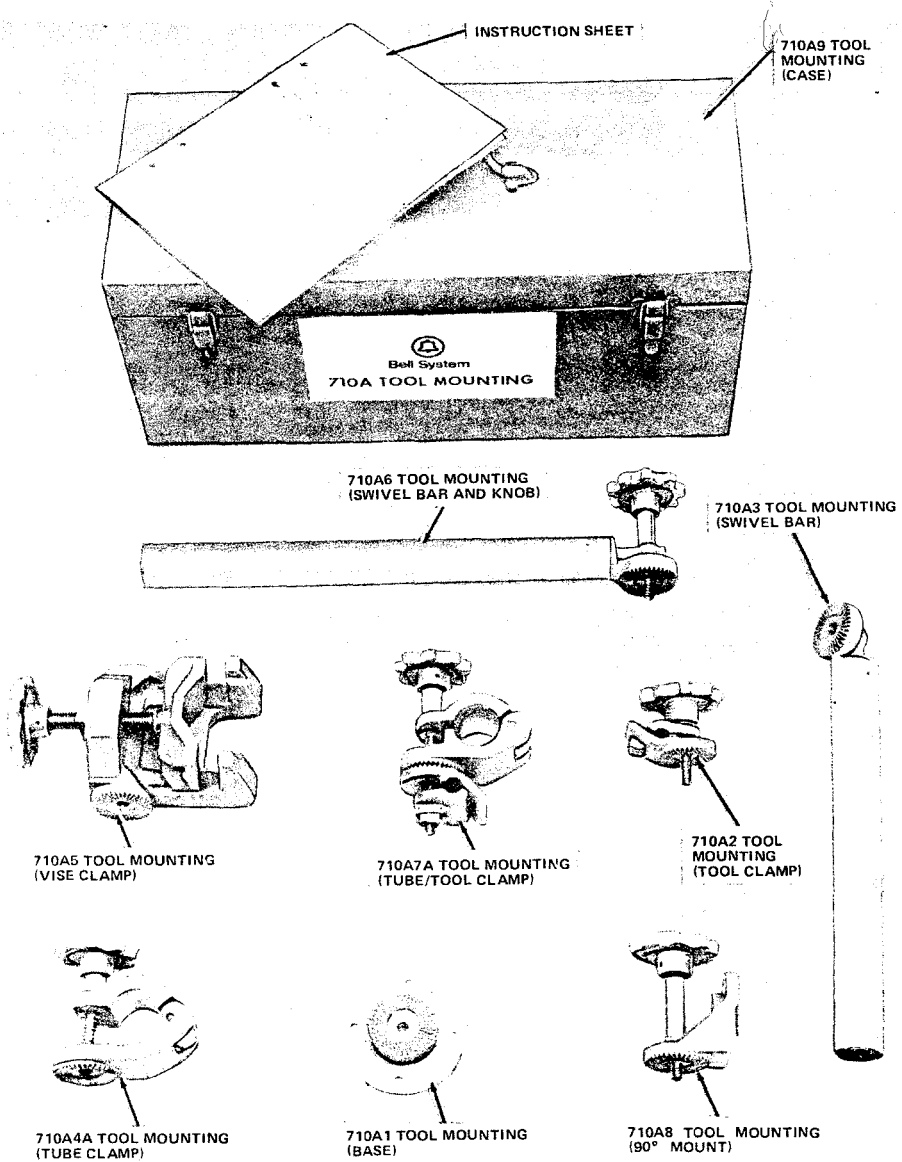

Fig. 6—710A Tool Mount
4.01 The 710A and 710B tool mountings, Fig. 6 and 7, are used for mounting tools to assemble the 710-type connector.